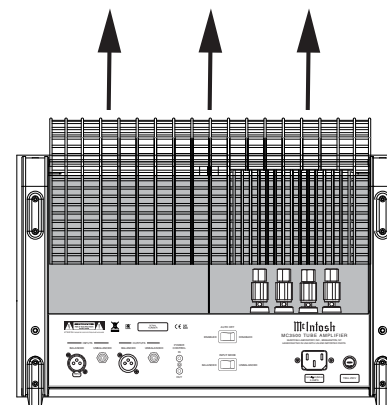

Figure 2
4. Carefully lift up and remove the Tube Cover from the MC3500. Refer to figure 2.